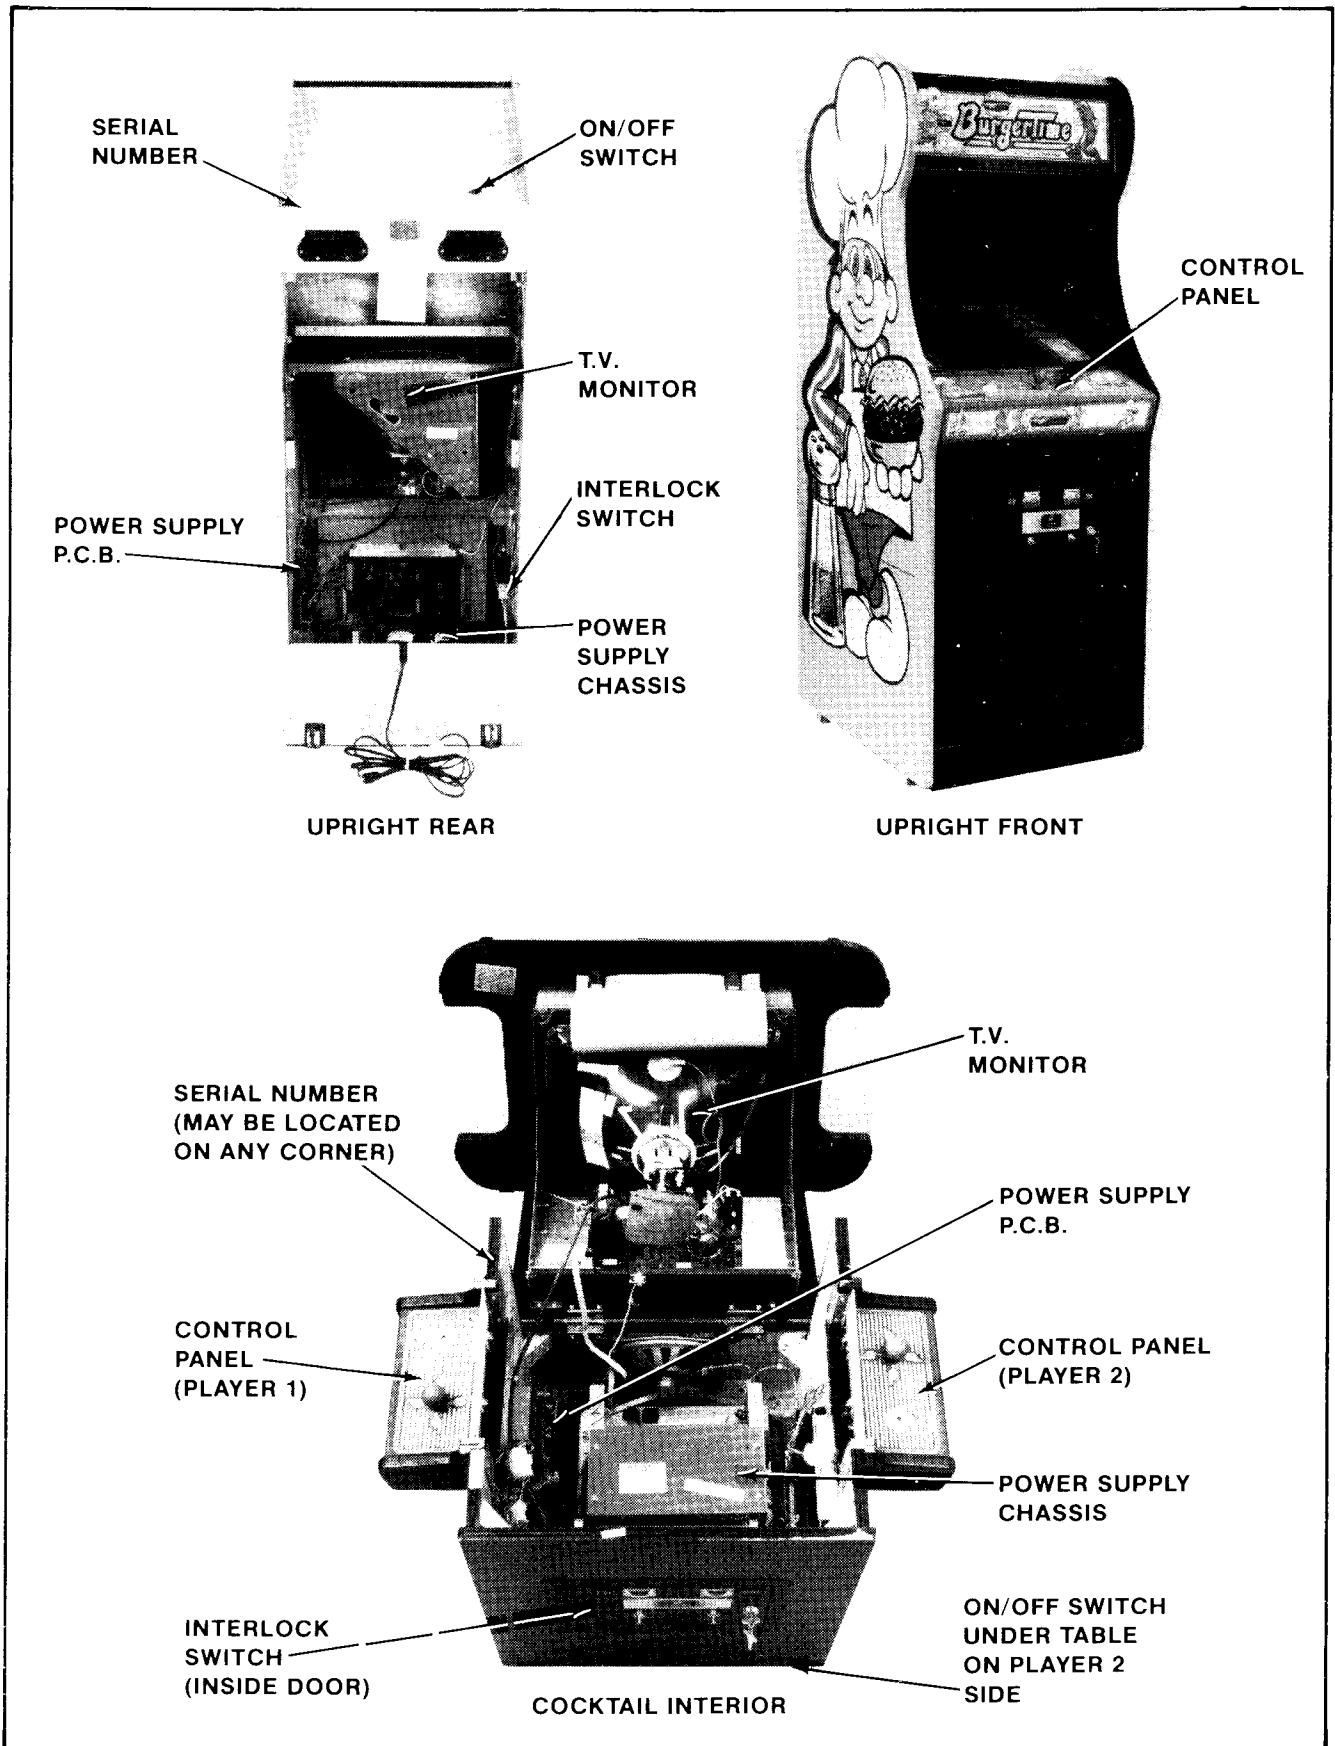

Figure 2-1 Location of Serial No., Interlock Switch, On/Off Switch, & Major Sub Assys.
5. Open the cabinet and inspect the inside of the game for any signs of damage. See Figure 2-1.
- Make sure all printed circuit boards (P.C.B.'s) are firmly seated in their connectors. See Figure 2-1. These connectors are also keyed. The P.C.B.'s will only go into them one way without being damaged.
- Note the location of the game's serial number. See Figure 2-1.
- Check all major subassemblies to be sure they are mounted securely. These are called out in Figure 2-1.
**3. Interlock and power ON/OFF switches:** See Figure 2-1.
The game ON/OFF switches for both models are located as shown in Figure 2-1. Turn the game on and allow it to warm up a few minutes.